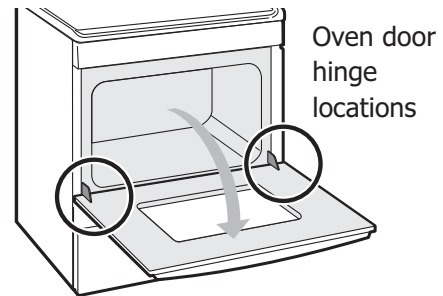

Figure 6: Door hinge location
1. Open oven door completely, horizontal with floor (See Figure 6).
3. Fully open the oven door, horizontal with floor (See Figure 6).